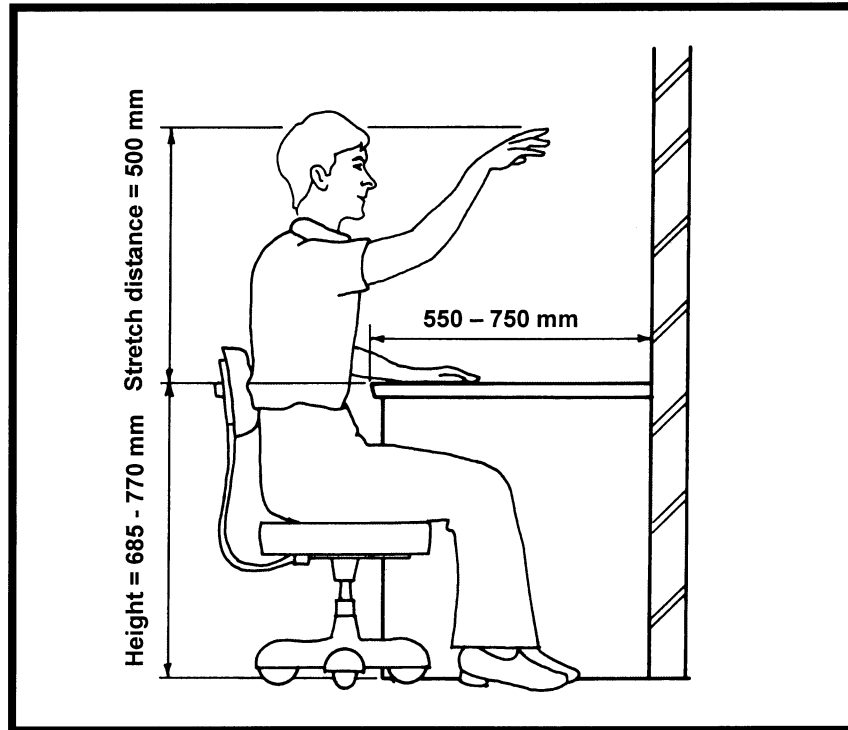

Figure 5.1
5.1.1 **Figure 5.1** shows the standard dimensions of a desk.